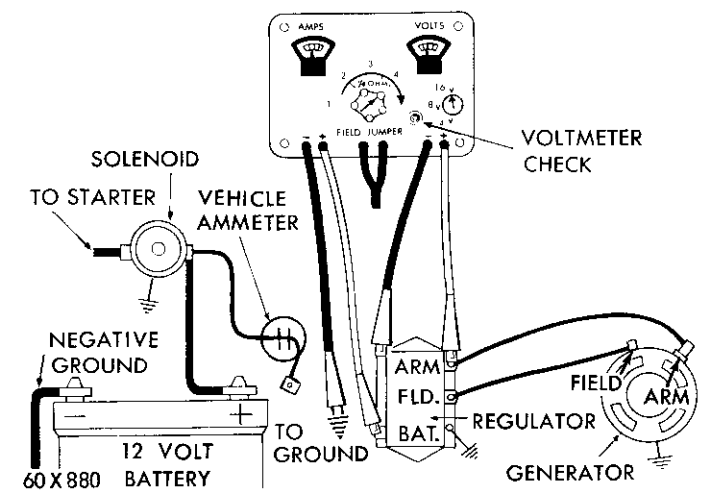

Fig. 15—Current Regulator Test
(1) Run the engine at idle speed. Disconnect the battery wire from the battery terminal of the regulator, connect positive test ammeter lead to the "B" terminal of the regulator and negative lead to ground (Fig. 15).
(2) Connect the positive voltmeter lead to the "A" (armature) terminal of the regulator and the negative voltmeter lead to the base of the regulator.
(3) Adjust the engine speed to 2000 r.p.m.
(4) Turn the control knob of the tester to the No. 4 position and adjust the control knob for the highest possible reading on the test ammeter. The peak ammeter reading is the setting of the current regulator.